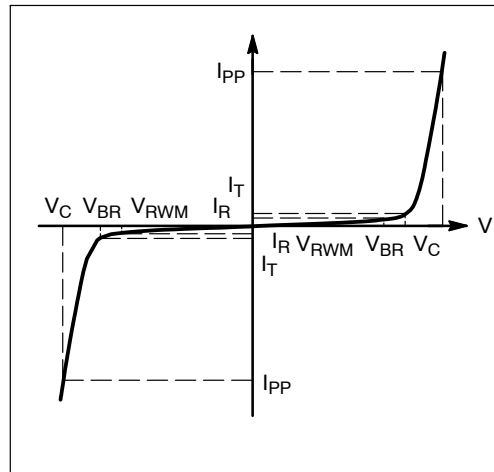

Figure 1. Bi-Directional
1. Non-repetitive current pulse per Figure 1.